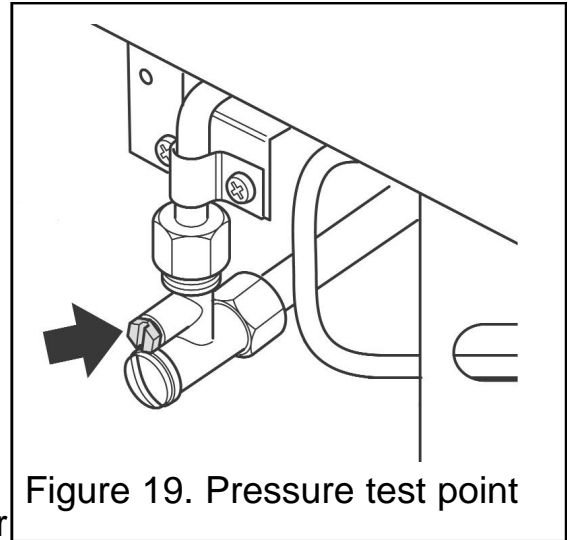

Figure 19. Pressure test point
1. Check the inlet pressure by fitting a pressure gauge at the test point. The test point is on the inlet elbow (See figure 19). Check the pressure with the appliance alight and set at maximum output.